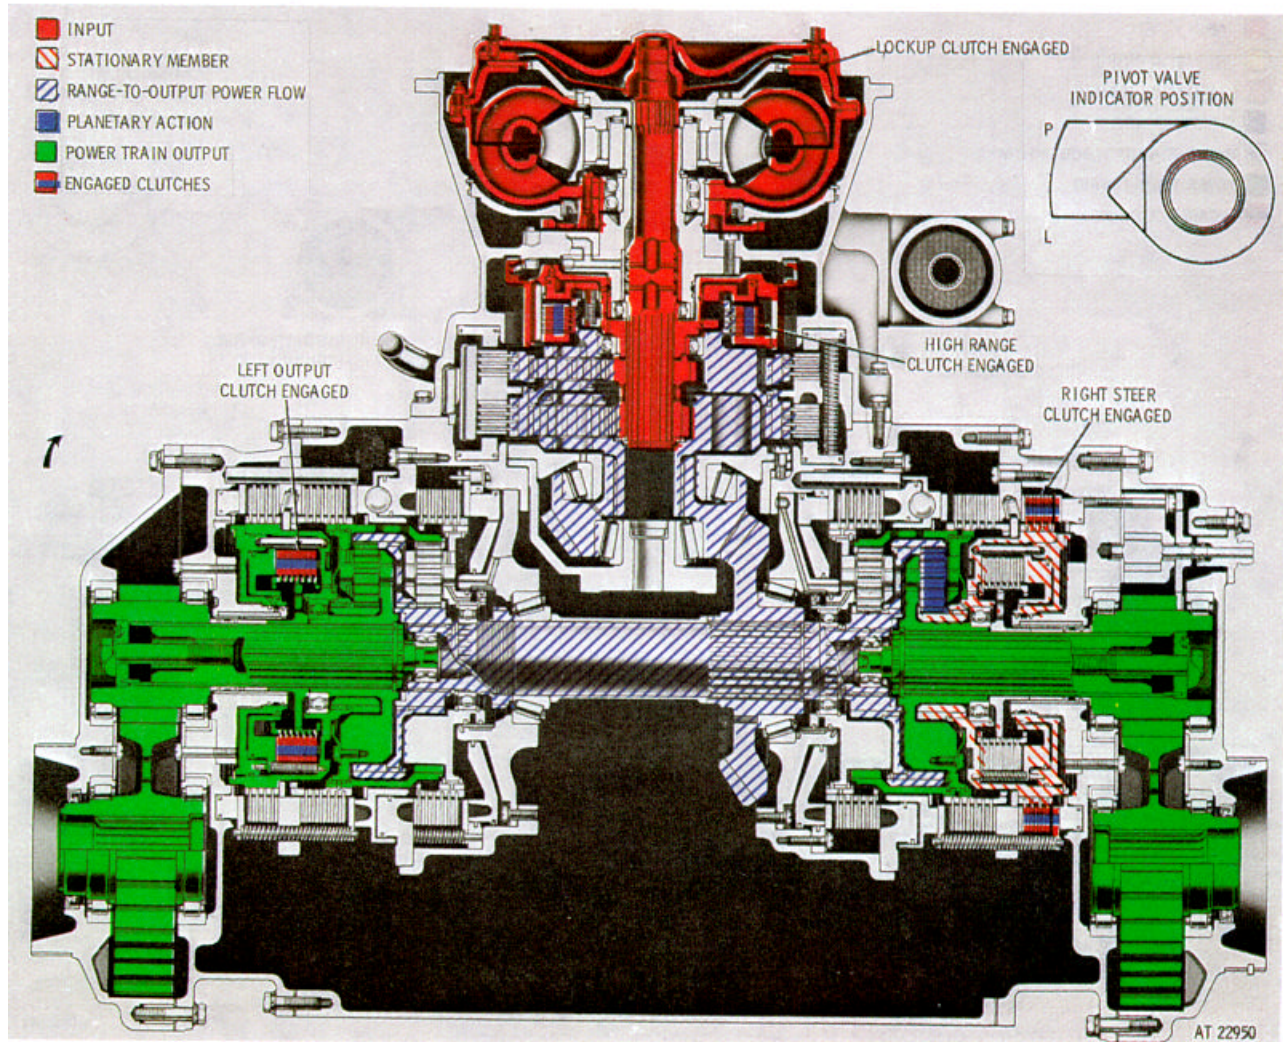

Figure 2-24. Fourth gear, normal right steer operation-torque path.
(3) In third gear, normal right steer operates in the same manner as left steer except that the actions described in (1) and (2), above, take place in opposite sides of the transmission. (The right steer clutch is engaged, while the left output clutch drives as in third-gear straight travel.)
d. Fourth Gear, Normal Right Steer (fig. 2-24).